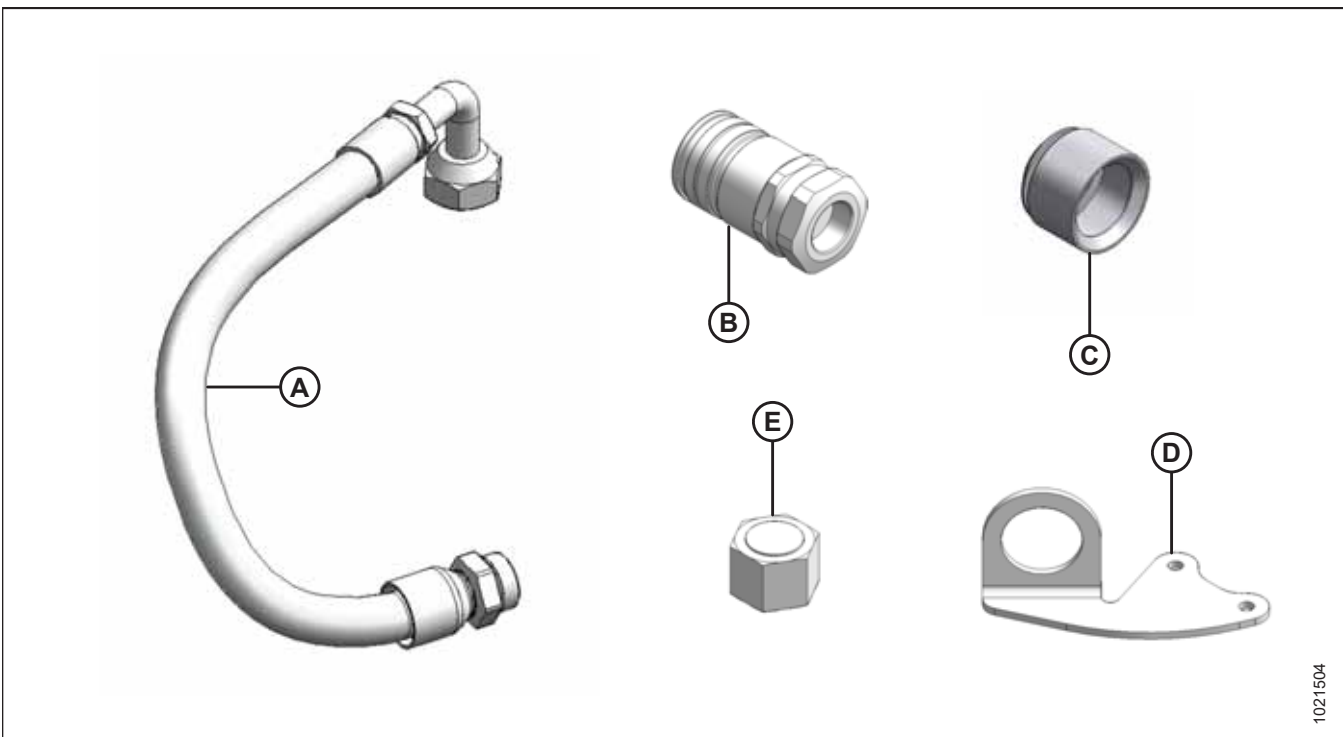

Figure 4.134: Hydraulic Drive Parts
11. Retrieve the parts shown in Figure 4.134, page 100 from the bag located inside left header support.